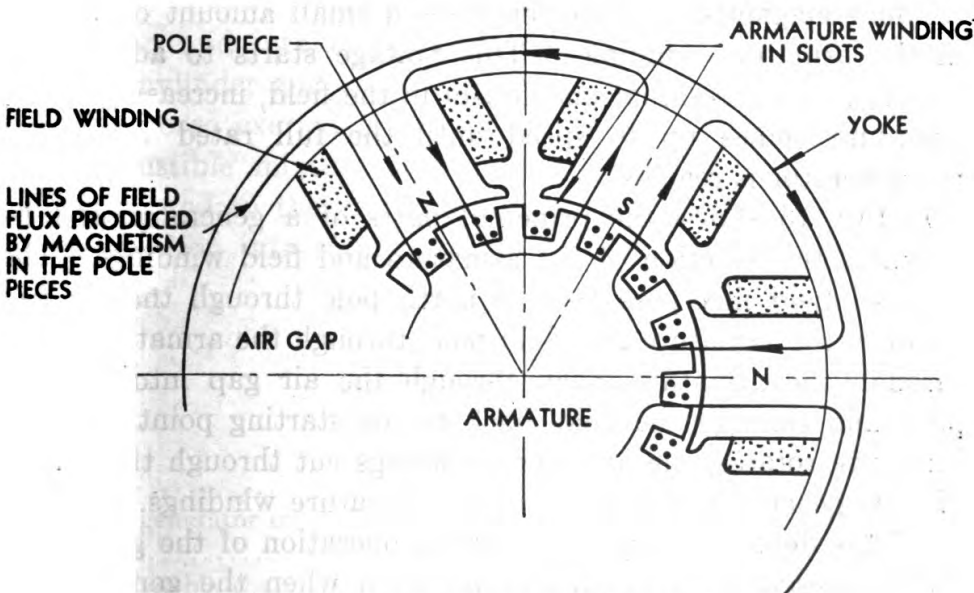

FIG. 15. GENERATOR FIELD WINDINGS
e. In an actual generator (Fig. 15) the field poles (460) serve as electromagnets. The armature winding (450) acts the same as the wire shown moving by the end of the magnet in Figs. 15 and 16. This movement is called cutting the lines of flux of the magnet. This motion induces a voltage in the armature winding which is connected to the armature commutator (451). The carbon
h. Fig. 15 shows the principal parts of a generator and illustrates the function of the armature and field windings. The lines of field flux pass from a north pole through the air gap between the armature and field pole, through the armature, back through the armature, back through the air gap into a south pole, and through the yoke back to the starting point. As the armature rotates, the armature windings cut through these lines of flux, generating a voltage in the armature windings.